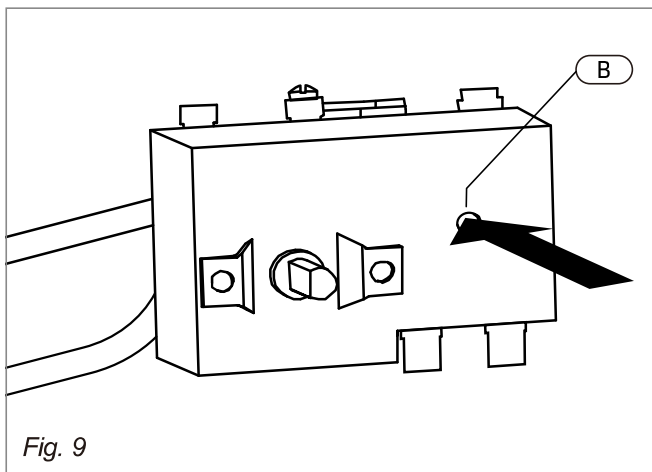

Fig. 9
- Firmly press reset button (Fig. 9, [B]) with the tip of a ball point pen or similar object.